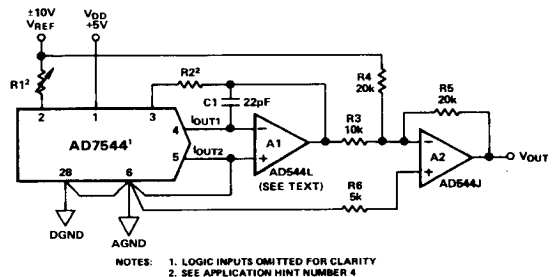

Figure 5. Bipolar Operation (4-Quadrant Multiplication)
Figure 5 and Table 6 illustrate the circuitry and code relationship for bipolar operation. With a dc reference (positive or negative polarity) the circuit provides offset binary operation. With an ac reference, the eleven LSBs provide digitally controlled attenuation of the ac reference while the MSB provides polarity control.
Table 6. Bipolar Code Table for Offset Binary Circuit of Figure 5
4. **GAIN TEMPERATURE COEFFICIENTS:** The gain temperature coefficient of the AD7544 has a maximum value of $5\text{ppm}/^\circ\text{C}$ and a typical value of $2\text{ppm}/^\circ\text{C}$. This corresponds to gain shifts of 2.0LSBs and 0.82LSBs respectively over a 100°C temperature range. When trim resistors are used to adjust full-scale range as shown in Figures 5 and 6 the temperature coefficient of R_1 and R_2 should be taken into account. It may be shown that the additional gain temperature coefficients introduced by R_1 and R_2 may be approximately expressed as follows:—